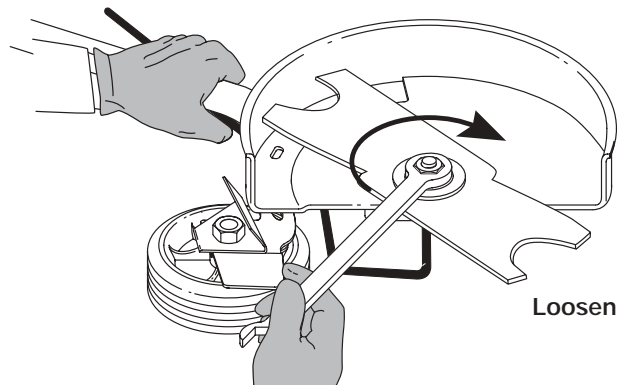

Fig. 9
3. While holding the locking rod, loosen the nut on the blade by turning it **clockwise** with a 5/8 inch wrench (Fig. 9). Remove the nut, retaining washer and blade. Keep the nut and blade retainer for installation.